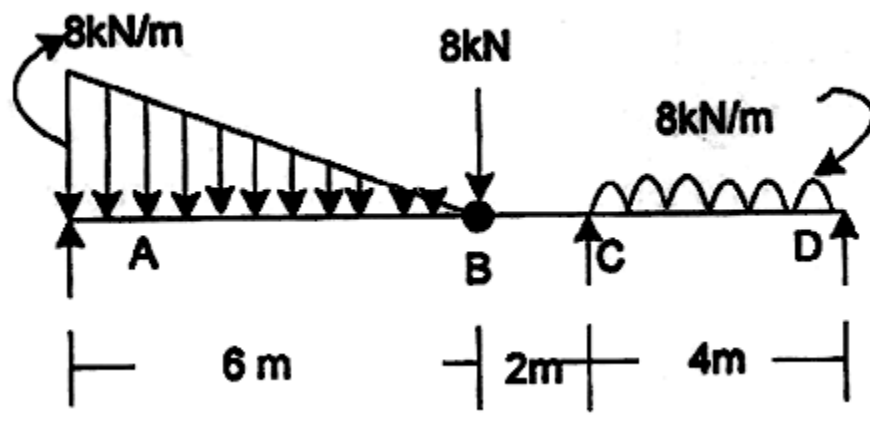

Fig. 3
3. (a) Draw S.F. and B.M. diagram for beam shown in Fig. 3. Show all important points on the diagrams. [10]